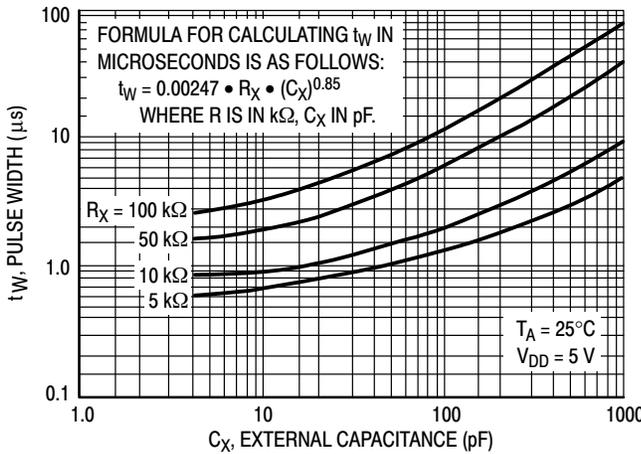

Figure 5. Typical  $C_X$  versus Pulse Width @  $V_{DD} = 5.0 \text{ V}$
**MONO–IN (Pin 15)** – Used as the timing pin for the on–chip monostable multivibrator. If the Mono–In input is connected to VSS, the monostable circuit is disabled, and Decode Out is directly connected to the selected Q output. The monostable circuit is enabled if a resistor is connected between Mono–In and VDD. This resistor and the device’s internal capacitance will determine the minimum output pulse widths. With the addition of an external capacitor to VSS, the pulse width range may be extended. For reliable operation the resistor value should be limited to the range of 5 kΩ to 100 kΩ and the capacitor value should be limited to a maximum of 1000 pf. (See figures 5, 6, 7, and 12).